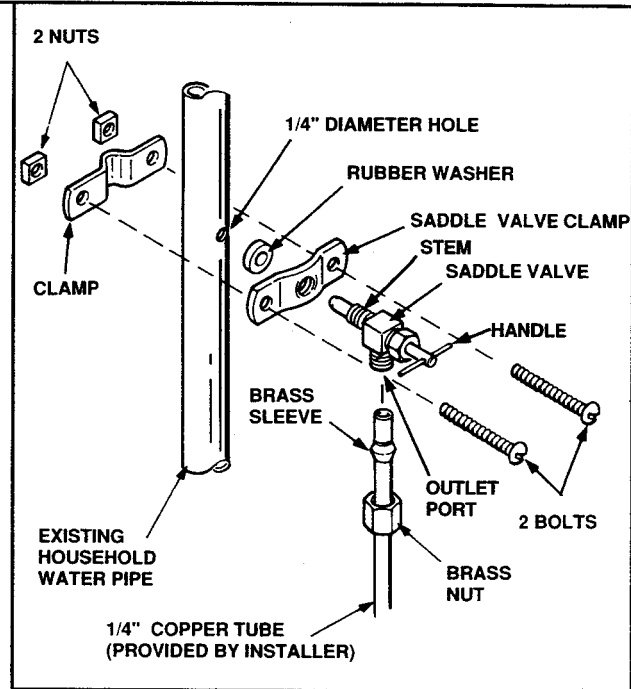

Figure 2
- e. Attach the saddle valve to the water pipe, using the parts illustrated in Figure 2.
- Tighten the two (2) bolts and two (2) nuts evenly, in increments, so spacing between both sides of the clamp remains equal.
- f. Slip the brass nut and brass sleeve onto the 1/4-inch flexible copper tubing, as shown in Figure 2.